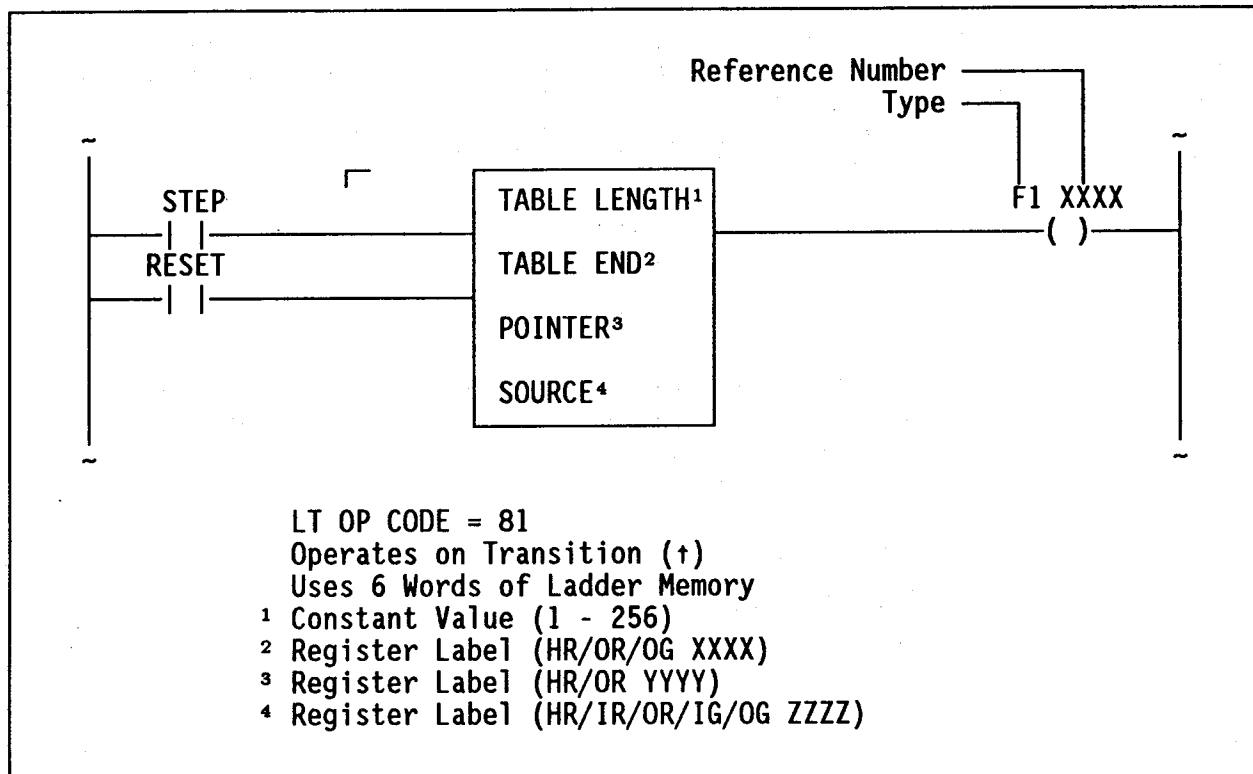
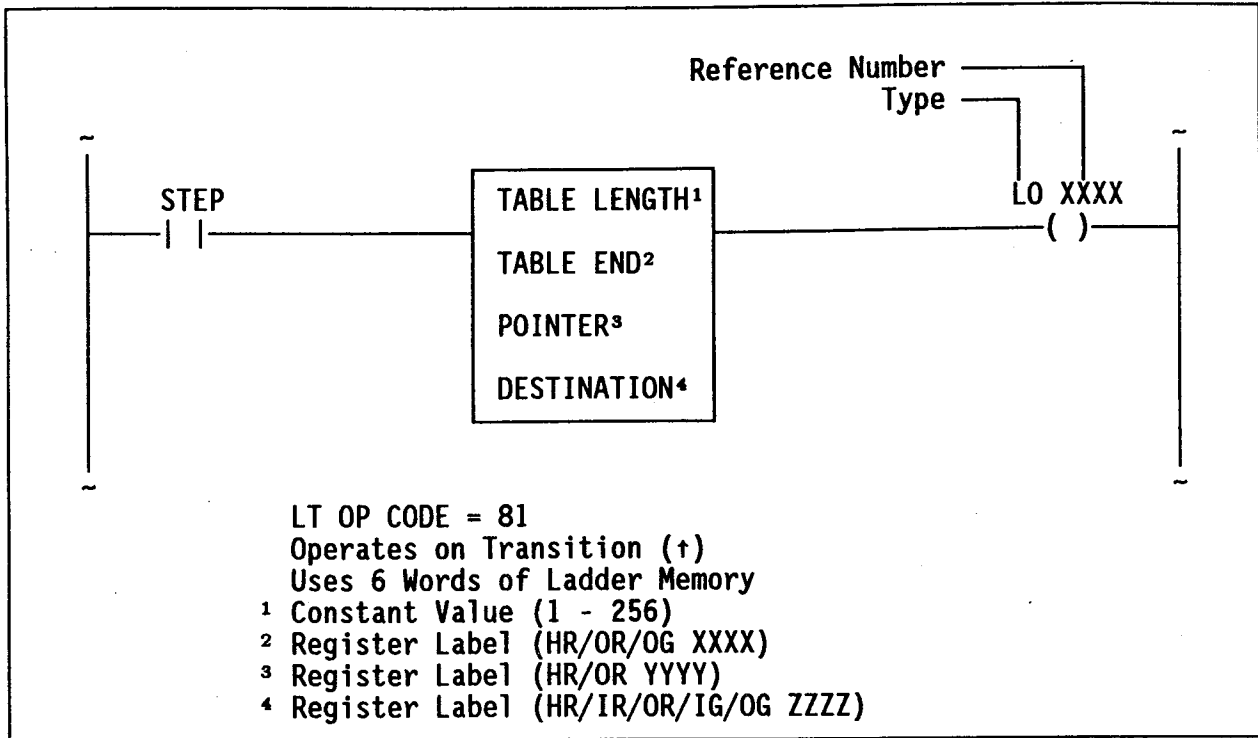

Figure 1. First in Stack (FI)
Figure 2. Last Out Fetch (LO)
The FILO Stack function is a combination of two functions: the First in Stack (FI) function, and the Last Out Fetch (LO) function. In the FI/LO functions, the first data entered is the last data retrieved. FI function symbology is shown in Figure 1; LO function symbology is shown in Figure 2.